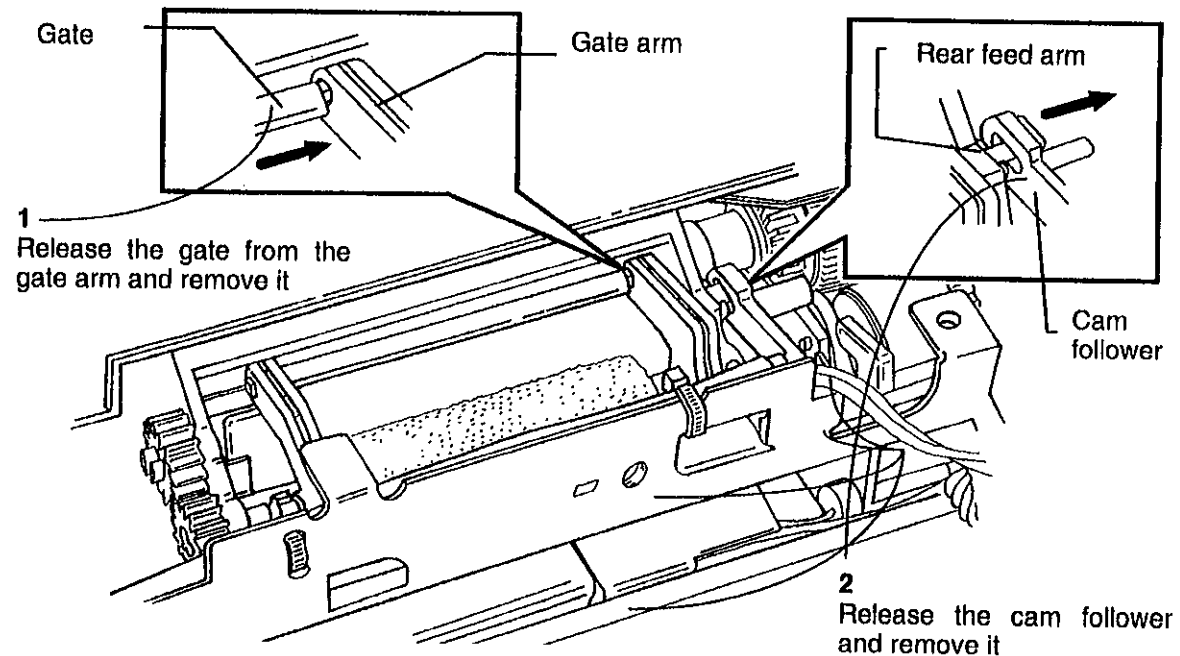

Figure 1. Preparing to Remove the Paper Feed Assembly
- 3 (Figure 1). Remove the gate by gently spreading the gate arms